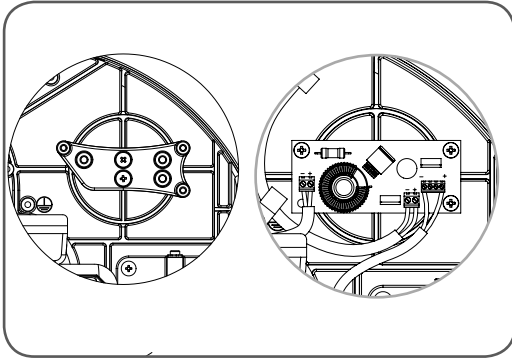

Fig 65
7. Fix the Charger Board Holder to where the transformer was removed from. Fix the charger onto the charger holder (**Fig. 65**)